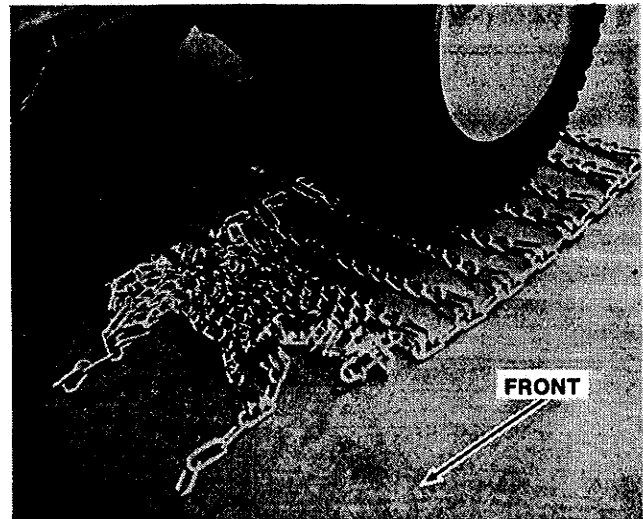

Figure 28
3. Roll the tractor or snowthrower forward so that the tire rests on the chain as shown in figures 28 and 29.